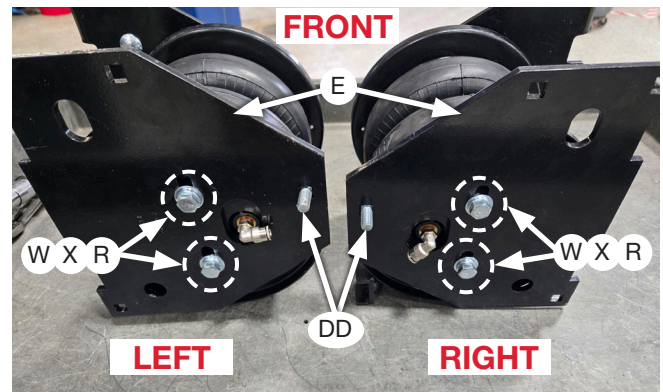

Fig. 8
- Insert two (2) 3/8"-16 x 1" carriage bolts (DD) into the square holes on the brackets, then secure the upper air spring brackets (E) onto the top of the air springs using (4 of each) 3/8"-24 x 7/8" hex bolts (W), 3/8" lock washers (X) and 3/8" flat washers (R). At this stage, the air spring assemblies are left- and right-hand units. Push the brackets as far forward as possible (Fig. 8). Torque the hardware to no more than 20 lb.-ft. (27Nm).